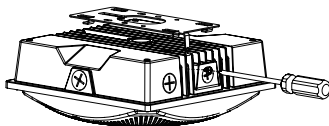

Fig. 3.1
1. Loosen the screw on the side of the luminaire and remove the mounting plate at the back (Fig 3.1).